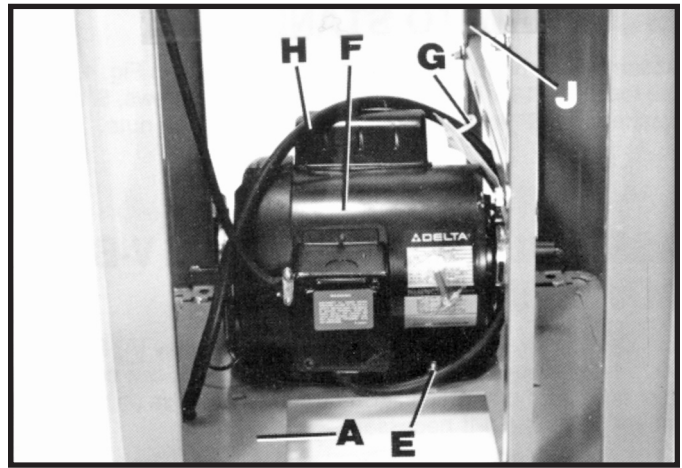

Fig. 2
3. Remove two mounting screws, one of which is shown at (E) Fig. 2, that are holding motor (F) to the top of stand (A). **IMPORTANT: DO NOT REMOVE CABLE TIE (G) THAT IS HOLDING SWITCH CORD (H) TO VERTICAL MOUNTING BAR (J), UNLESS YOU ARE USING THE ACCESSORY 28-984 HEIGHT ATTACHMENT ON THE BAND SAW. THIS CABLE TIE (G), WILL KEEP THE SWITCH CORD (H) FROM CONTACTING THE MOTOR PULLEY OR BELT DURING OPERATION.**